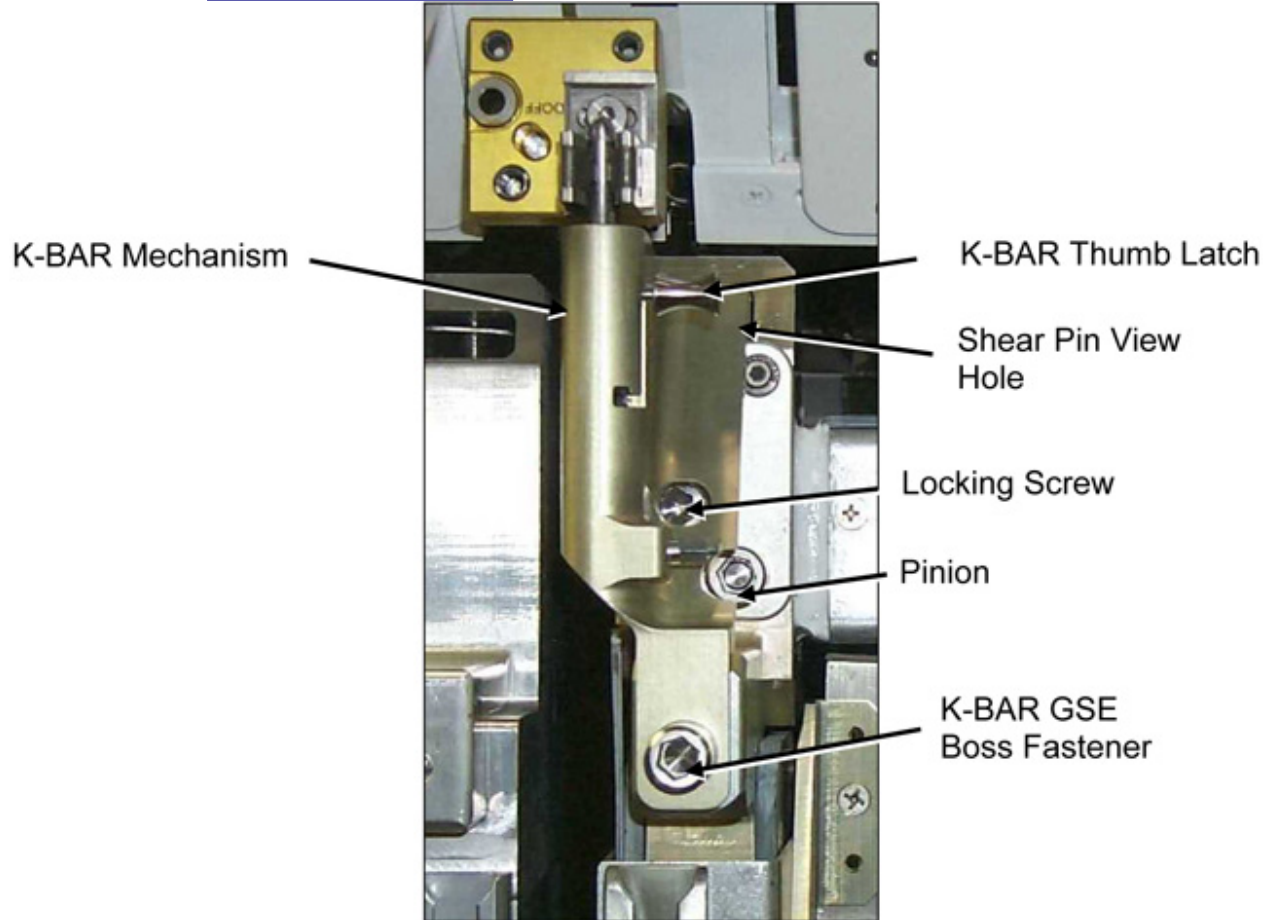

Figure 5. K-BAR Assembly Installed (Rack Upper Left).
- 4.2 Place K-BAR Assy, Left (P/N 683-62201-33), into left Upper Attach Mechanism Shear Pin View Hole. Refer to Figure 5.
- 4.3 Verify Locking Screw fully unlocked. Refer to Figure 5.
Refer to Figure 5.
- 4.5 Snug Locking Screw and K-BAR GSE Boss Fastener (Ratchet, 3/8" Drive; 5" Long, 3/8" Ball Tip Hex Head, 3/8" Drive). Refer to Figure 5.